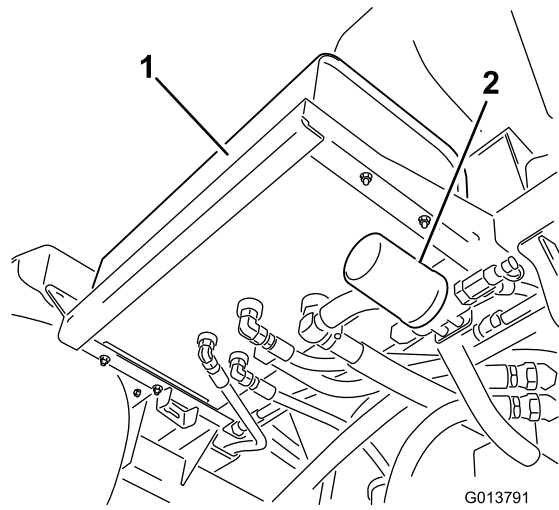
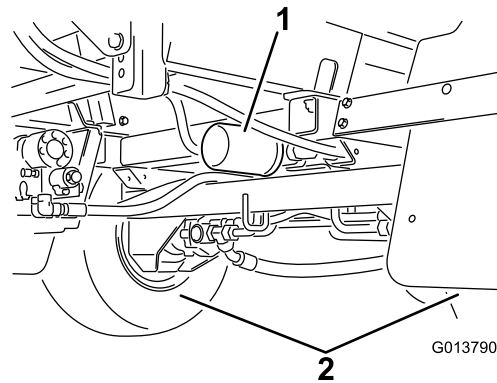

Figure 91
Figure 92
2. Locate the 2 hydraulic filters on the machine (Figure 91 and Figure 92).